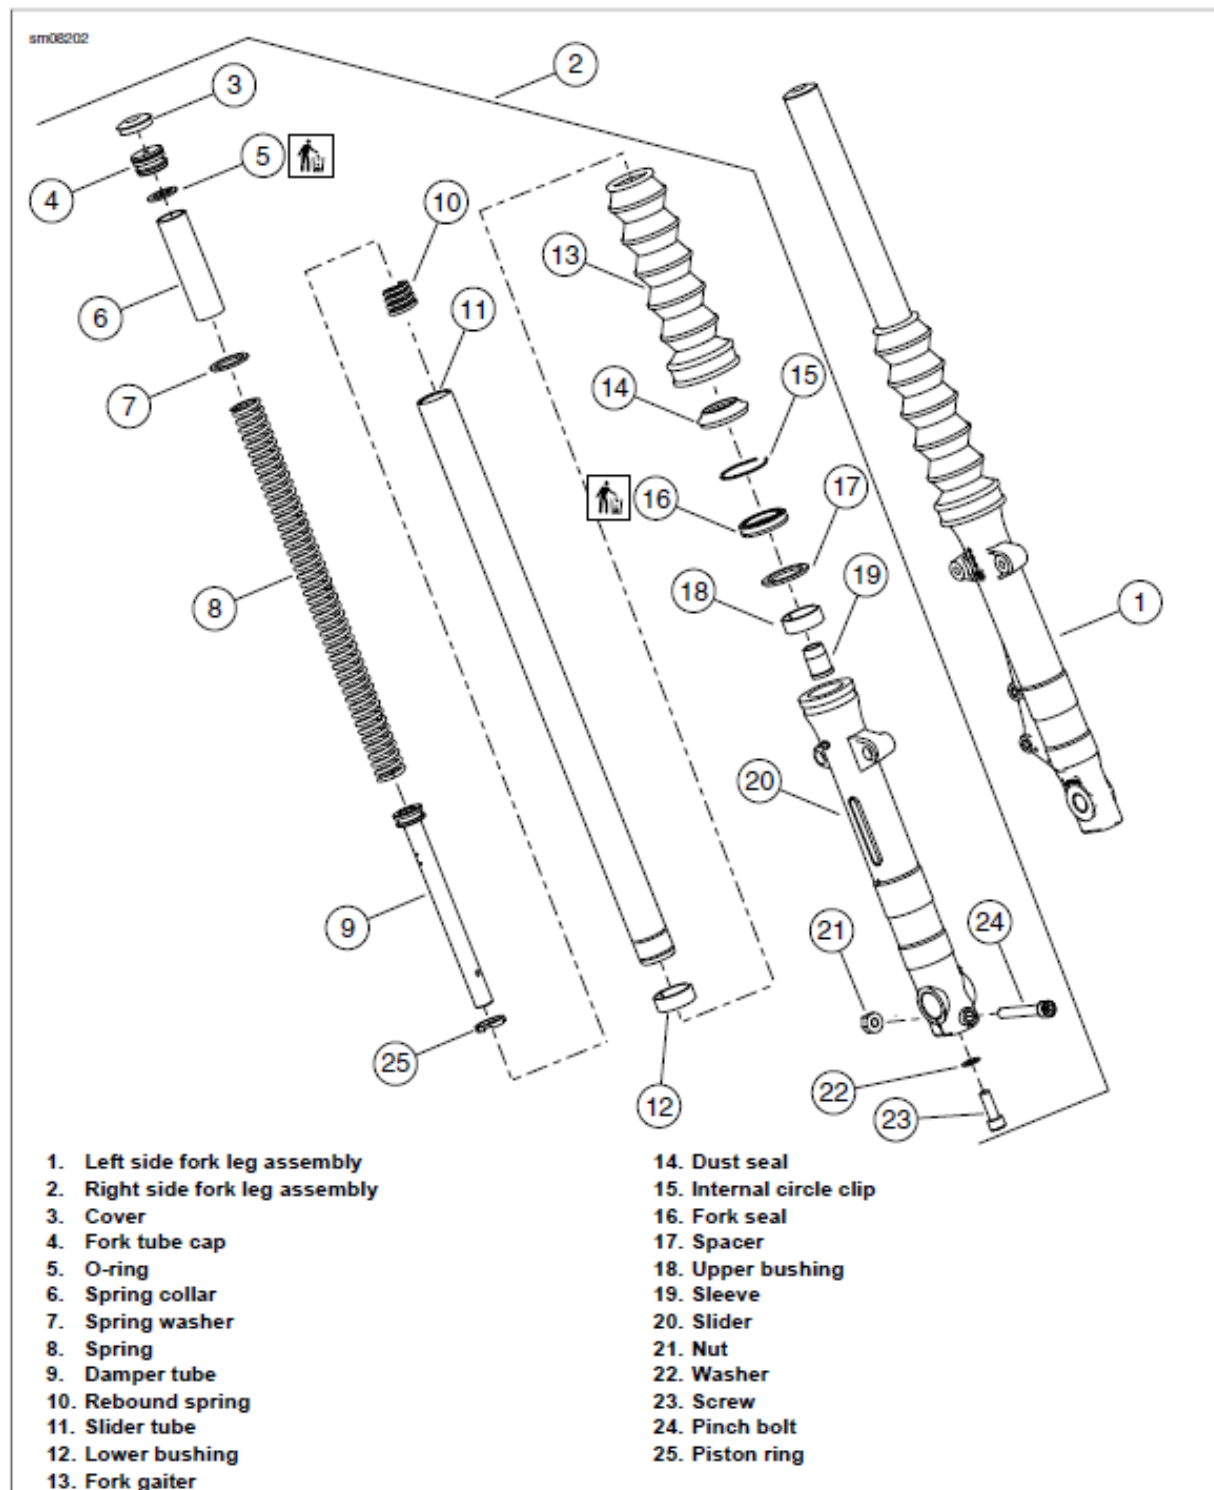

Figure 3-39. Front Fork Assembly
See Figure 3-39 on page #2.
See Figure 3-39.
**Refer back to Figure 3-39.**
1. Apply HARLEY-DAVIDSON SEAL GREASE to O-ring (5) on fork tube cap (4).
2. Extend the slider tube (11) and install spring (8), spring washer (7) and spring collar (6).
3. Install fork tube cap (4) into slider tube (11).